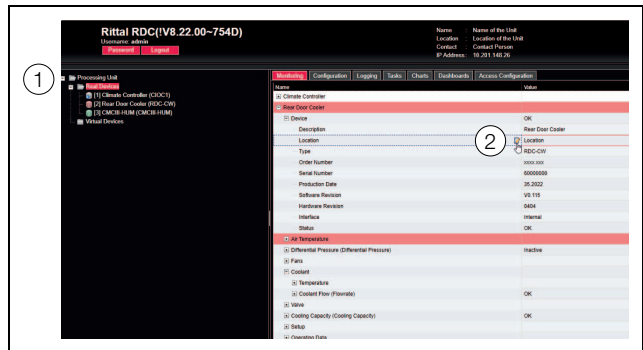

Fig. 99: Selecting an individual parameter
- One after the other, open the "Liquid Cooling Unit" and "Device" entries by clicking on the "plus" symbol in front of the entry (fig. 99, item 1).
- Position the mouse pointer at the end of the first column in the "Location" line (fig. 99, item 2).